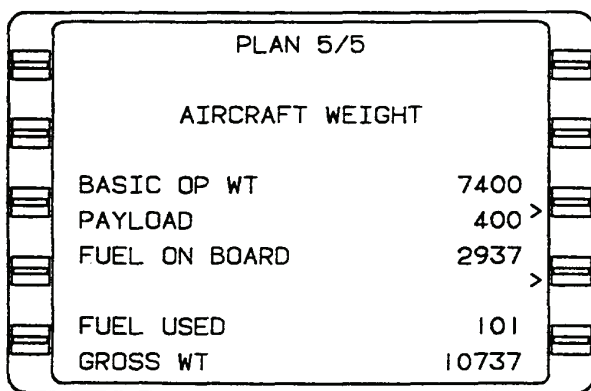

Figure 3A-42. Plan 5/5 Page, Aircraft Weight
(5) *Plan 5/5 Page, Aircraft Weight*. Refer to Figure 3A-42.